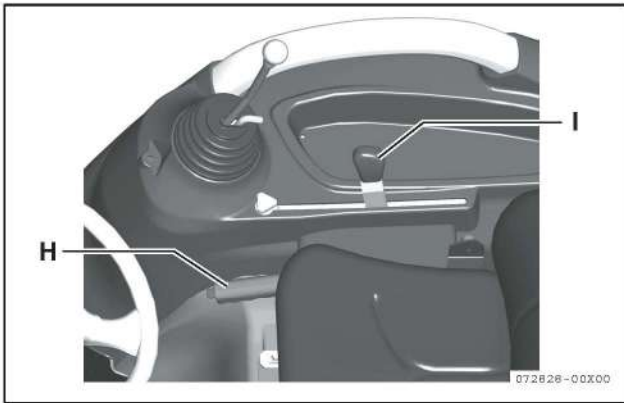

Fig 7-17
- Release the forward and reverse drive pedal fully. (Fig 7-17, A, B)
- Depress brake pedal. (Fig 7-17, C)
2. Move the range shift lever (Fig 7-17, F) to the N (neutral) position (SA424).
3. Push down Power Take Off (PTO) switch (Fig 7-17, G) to (OFF) position.
- (I) 3-point hitch control lever
6. Pull the throttle control lever (Fig 7-17, D) backward to the slow idle position.
8. Turn the starter key switch (Fig 7-17, E) to the OFF position.